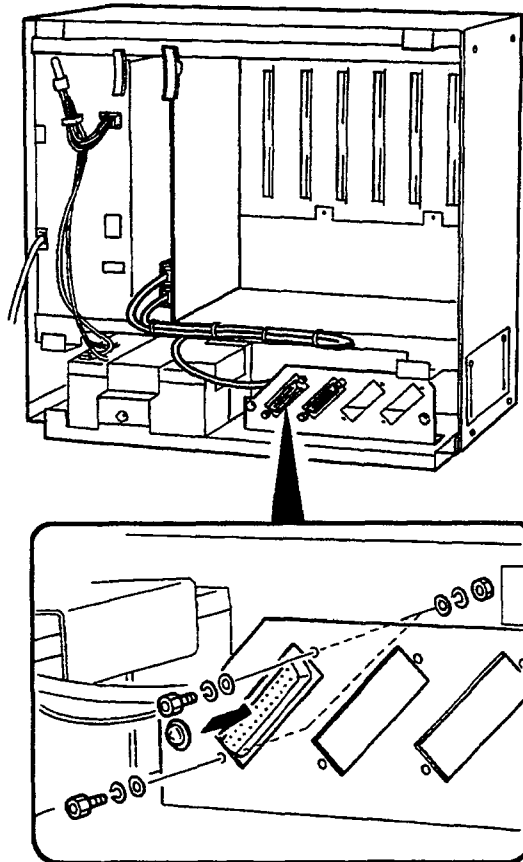
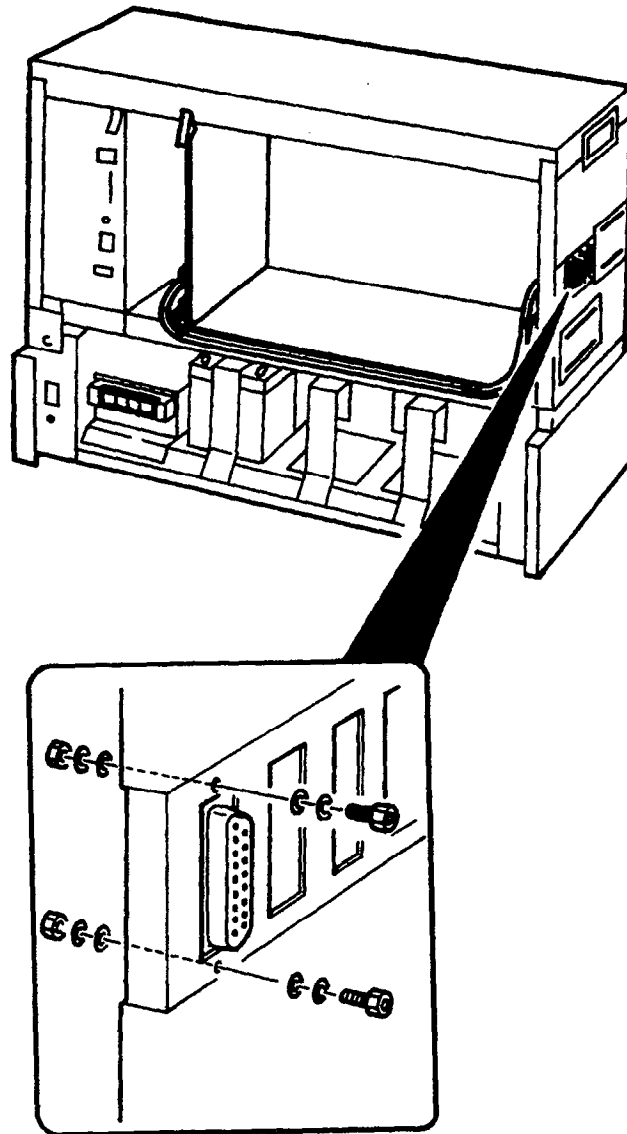

Figure 3-99 Connecting the MIF Cable Assembly and the MIF-F(S)-10 KTU to the ESF-SB-10 KSU
Figure 3-100 Connecting the MIF Cable Assembly and the MIF-F(S)-10 KTU to the ESF-XB-10 KSU
After installing the KTU, connect the RJ35 pin connectors to CN8 or CN7 in the MIF-F(S)-10 KTU. When connecting a PC, connect the small connector on the MIF Cable Assembly to CN10 on the MIF-F(S)-10 KTU, then remove the RS-232 connection bracket from the KSU and attach the RS-232, on the MIF Cable Assembly, to the RS-232 connection bracket using the screws on the RS-232 connectors. This same connection procedure must also be performed on the ESF-XB-10 KSU or ESF-XE-10 KSUs. Refer to Figure 3-99 - Connecting the MIF Cable Assembly and the MIF-F(S)-10 KTU to the ESF-SB-10 KSU and Figure 3-100 - Connecting the MIF Cable Assembly and the MIF-F(S)-10 KTU to the ESF-XB-10 KSU.
3. Connect the MIF Cable Assembly to CN8 on the MIF-F(S)-10 KTU and the Basic KSU. Refer to Figure 3-99 - Connecting the MIF Cable Assembly and the MIF-F(S)-10 KTU to the ESF-SB-10 KSU.
3. Connect the MIF Cable Assembly to CN7 and CN10 on the MIF-F(S)-10 KTU and the KSU. Refer to Figure 3-99 - Connecting the MIF Cable Assembly and the MIF-F(S)-10 KTU to the ESF-SB-10 KSU.